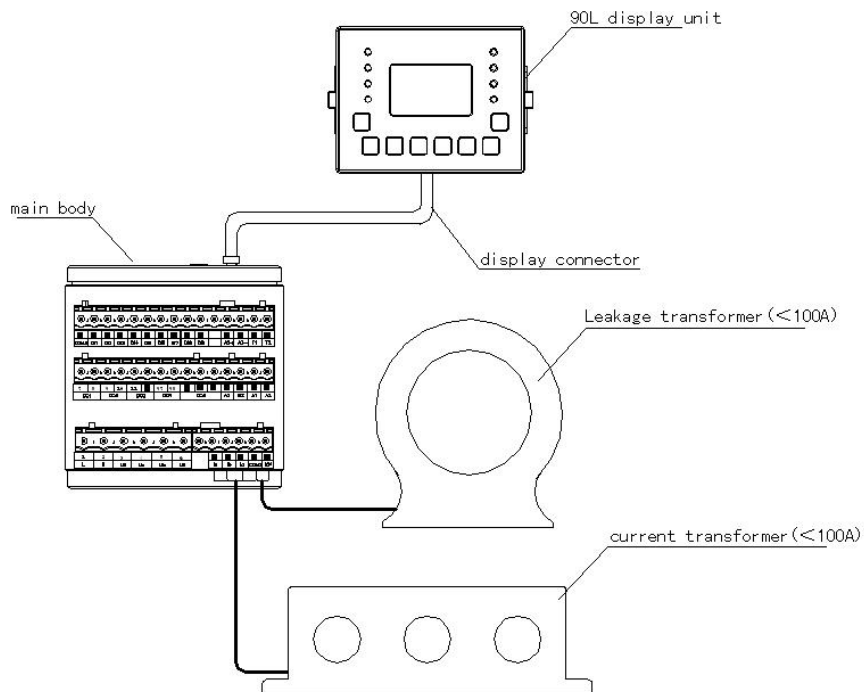
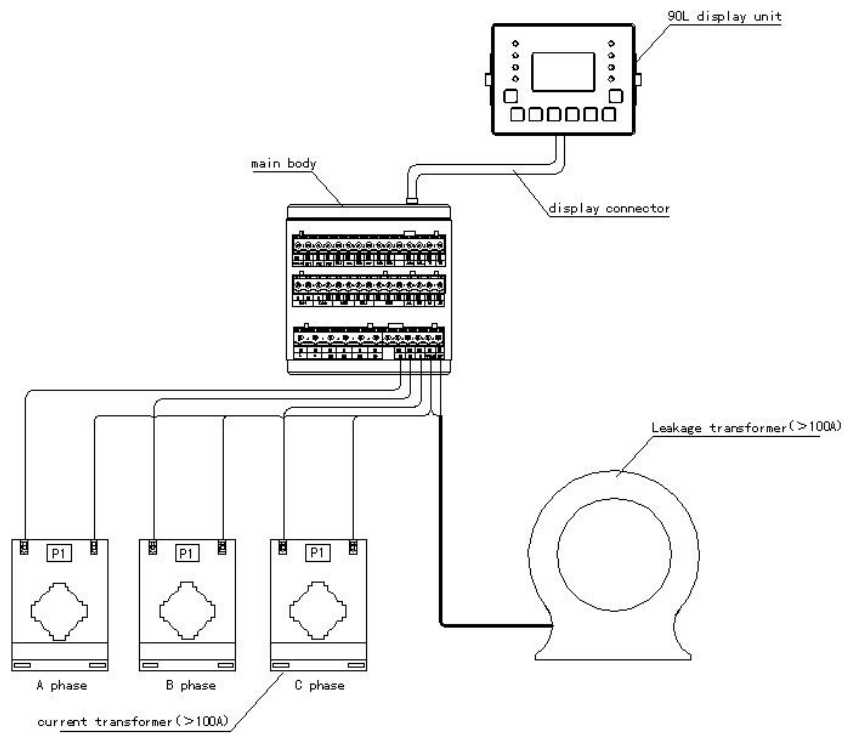

FIG. 1 Composition of products with 100A and below specifications
FIG. 2 Composition of 250A and 800A
5.1 The product composition of ARD3 is shown in Figure 1, Figure 2